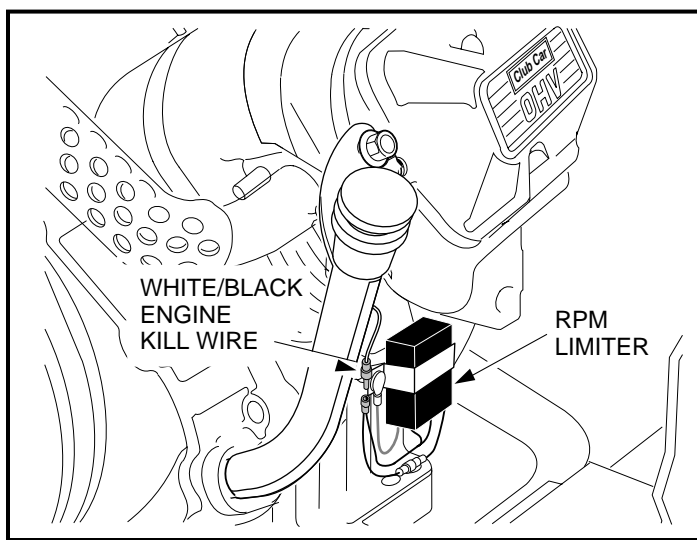

Figure 11-35 Disconnect White/Black Engine Kill Wire
2. Disconnect the engine kill white/black wire at the bullet connector located by the RPM limiter (**Figure 11-35, Page 11-28**).
2. Disconnect white/black wire bullet connector located at the engine RPM limiter (**Figure 11-35, Page 11-28**).